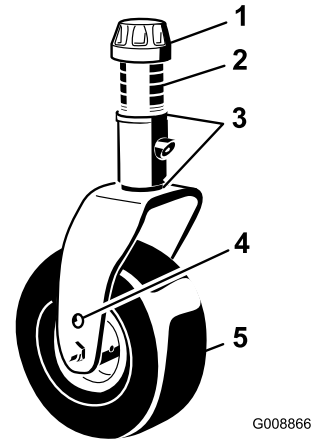

Figure 80
- Remove the tensioning cap from the spindle shaft and slide the spindle out of the caster arm (Figure 80).